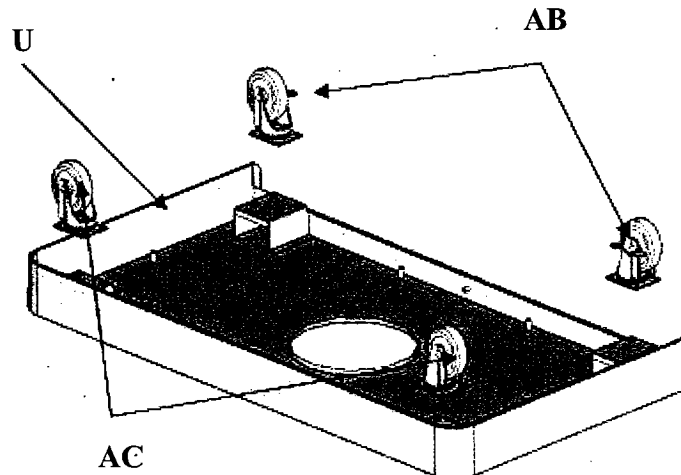

Fig. 2
As shown in Fig. 2, align the holes in the caster (AB&AC) with the holes of the bottom panel (U). Insert the screws into the aligned holes, and then tighten. When this process is completed, turn the bottom panel over. The two locking casters should be at the back of the grill.